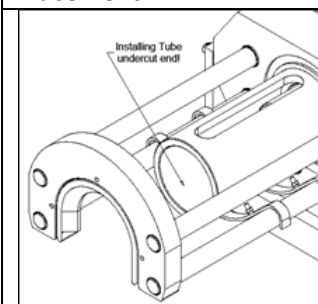

Figure 25 – Installing Tube Alignment
NOTE: THE INSTALLING TUBE MUST BE INSTALLED CORRECTLY! The tube end with the undercut will be visible if installed correctly (Figure 25).
- 5.3.8 Place the Installing Tube on the Installing Tube Cradles (Figure 25).